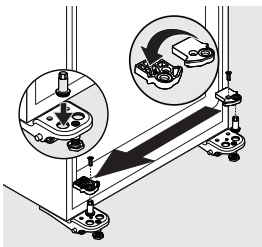

Figure 3
- Using a T20 Torx Head screwdriver, remove the door stopper screw, and remove door stopper (see Figure 3).
- Using a 5/16 in. socket, unscrew the bottom hinge pin (see Figure 3).
- Reinstall the bottom hinge pin in the left side hole on the left side hinge (see Figure 3).
- Flip the door stopper. Reinstall the door stopper on top of the bottom hinge with the screw (see Figure 3).